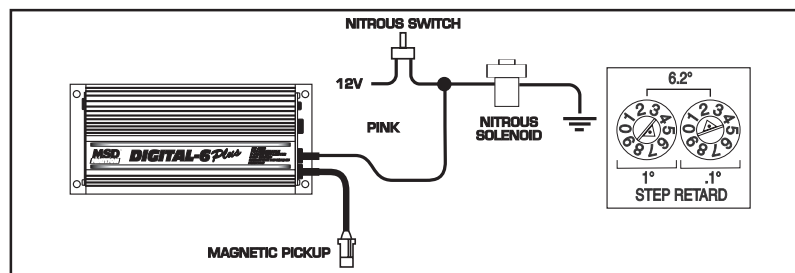

Figure 6 Wiring the Retard Stage.
The MSD features a single stage retard step that is activated when 12 volts are applied to the Pink wire. The retard will remain until the 12 volts are removed. This retard step can be connected to a nitrous solenoid activation wire or micro-switch on the shifter. The retard is adjustable from 0° to 9.9° in 1/10° increments. The example in Figure 6 shows connecting the retard to a nitrous stage.
**Early Ford and GM:** To solve the Run-On problem, a Diode is supplied with the MSD in the parts bag. By installing this Diode in-line of the wire that goes to the Charging indicator, the voltage is kept from entering the MSD. Figure 6 shows the proper installation for early Ford and GM vehicles.